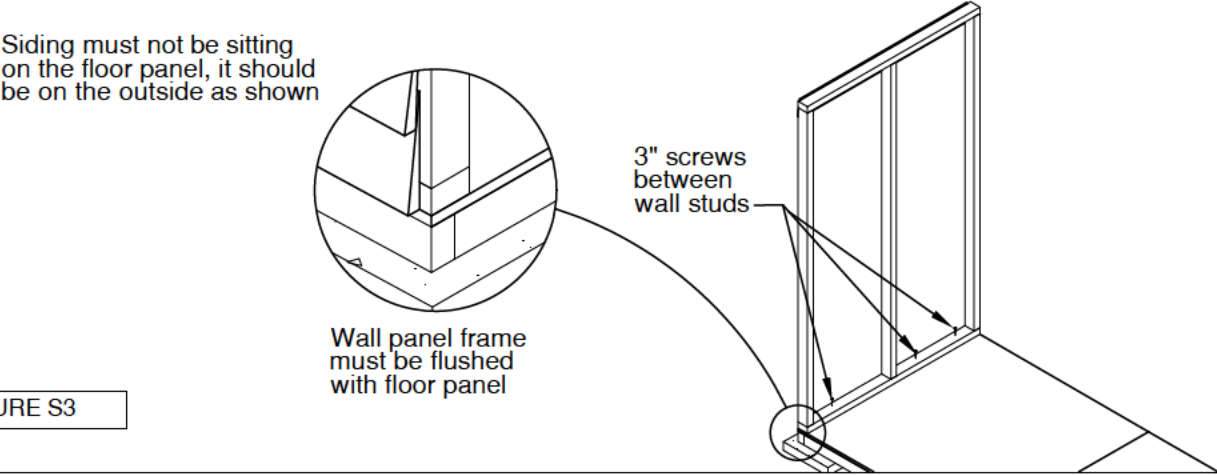

FIGURE S3
- Starting from a rear corner, raise and attach an end wall panel to the floor with 3 - 3" screws (FIGURE S3).